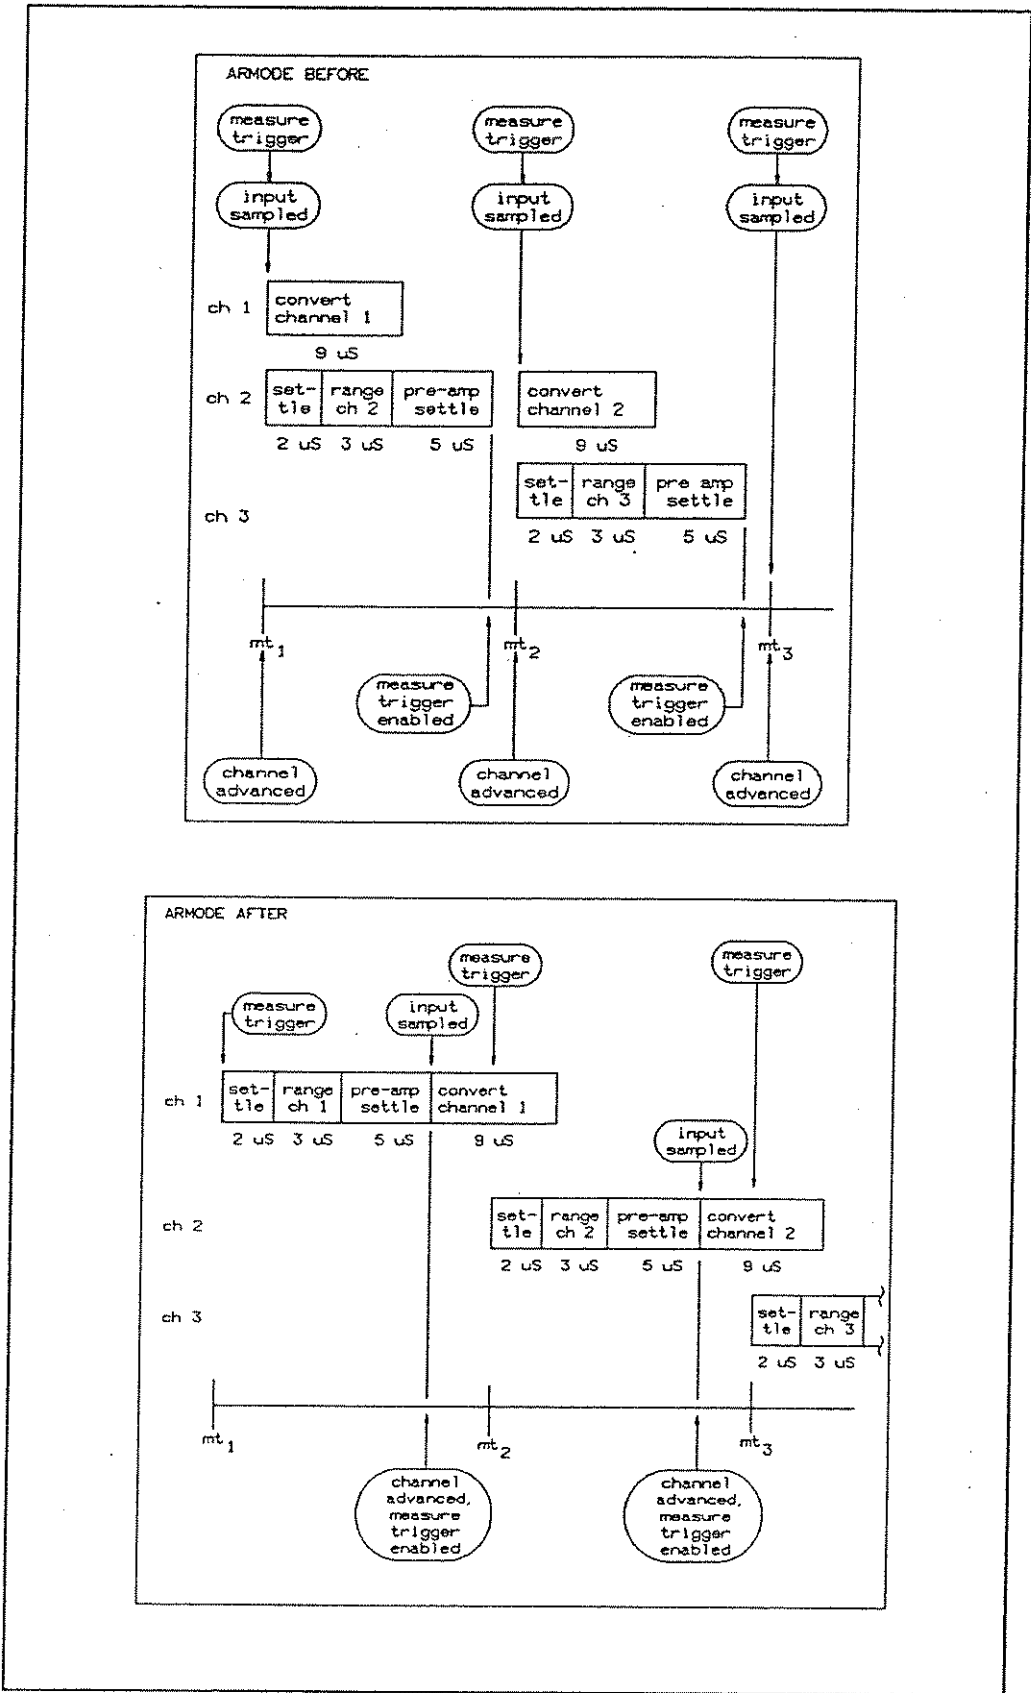

Figure 5-9. Autorange Modes
**Autorange Mode (ARMODE)** When autoranging is enabled (with CONF, FUNC, RANGE, etc.), ARMODE mode [USE ch] sets the autorange mode. ARMODE has two modes: Immediate Mode (ARMODE BEFORE) and Delayed Mode (ARMODE AFTER) which is the power-on mode. As shown in Figure 5-9, each measurement is initiated by a measure trigger and requires 10 μsec to complete.
As shown in Figure 5-9, with ARMODE BEFORE and autoranging enabled, the channel 1 input is immediately sampled when measure trigger  $mt_1$  is received and the multiplexer is advanced to channel 2. During the time the channel 1 measurement is being converted, the voltmeter autoranges on channel 2. After  $10 \mu\text{sec}$ , the measure trigger is re-enabled.
With ARMODE AFTER, when a measure trigger is received the voltmeter first autoranges on the channel, then samples the input, and then does the A/D conversion. For example, as shown in Figure 5-9 when the measure trigger for channel 1 ( $mt_1$ ) is received, the voltmeter autoranges on channel 1 and (after a  $5 \mu\text{sec}$  delay) samples the channel 1 input. When the measure trigger for channel 2 ( $mt_2$ ) is received, the sequence is repeated for channel 2, etc.